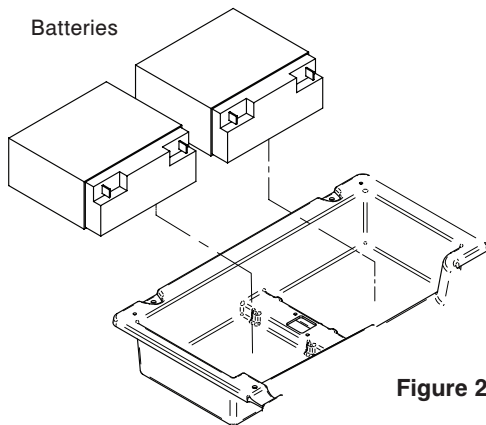
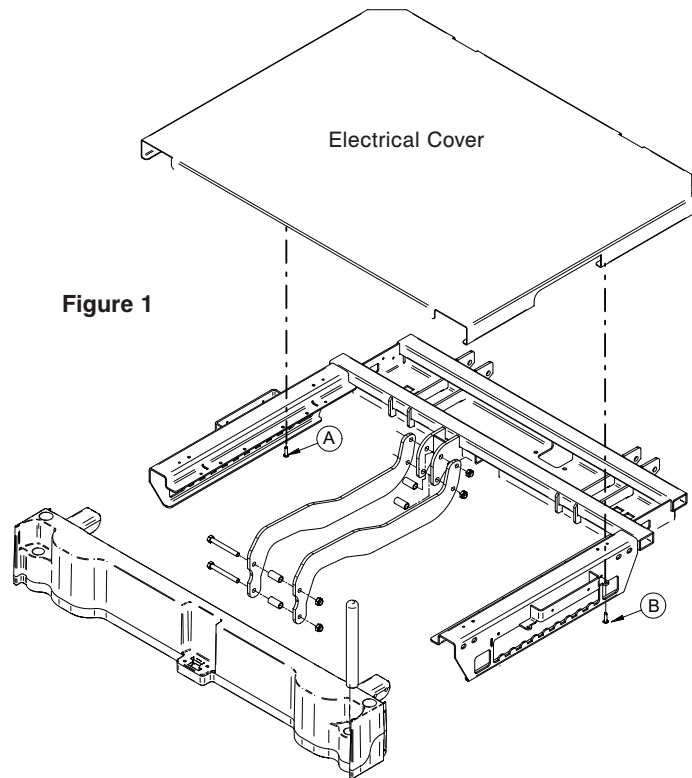

Figure 2
Figure 1
5. Using a Phillips screwdriver, remove the two screws securing the electrical cover and remove the cover (reference Figure 1 above, item A and B).
6. Unplug the bed from the wall outlet and turn battery switch "OFF" (0). The bed should now have no power.
8. Lift up on both batteries and stand them upright (reference Figure 2 above).
4. Using a Phillips screwdriver, remove the two screws securing the electrical cover and then remove the cover (refer to Figure 1 above, item A and B).
5. Using a Phillips screwdriver, remove the two screws securing the angle sensor to the foot frame (refer to Figure 2 above). **Note: Use caution as the cover is large and heavy.**